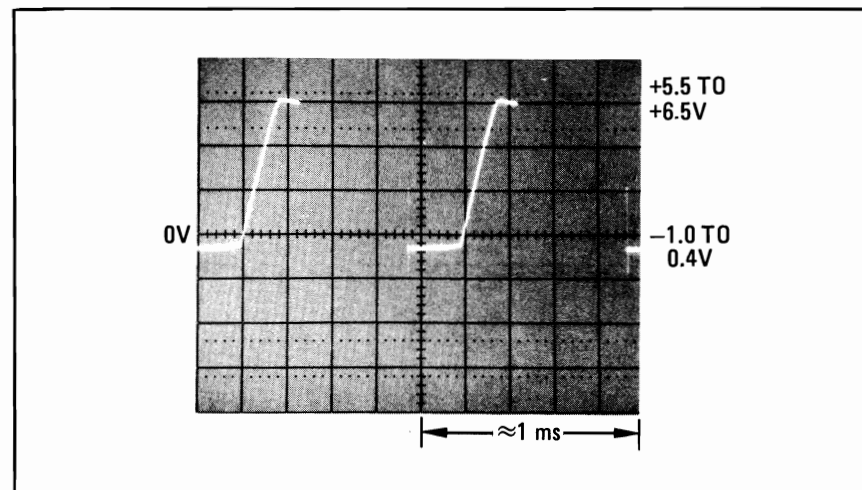

Figure 8-78. Oscillator Leveling Check Waveform B
4. Connect the oscilloscope to pin 14 of U8D. The waveform should be as shown in Figure 8-78.